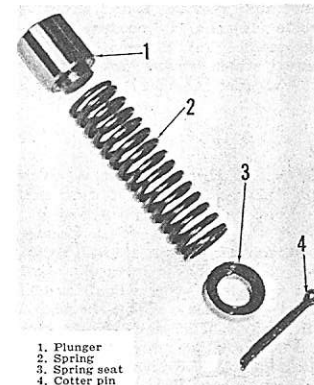

Fig. 146—Disassembled view of plunger type relief valve which is located in oil pump body.
131. The plunger type relief valve (Fig. 146) is located in oil pump body, and can be adjusted by renewing spring (2) to maintain a relief pressure of 50-65 psi at operating speed. Spring (2) should have a free length of 1½-inches and should test 5¼-7¼ lbs. at 1¼-inches or 11½-13½ lbs. at 1 inch.